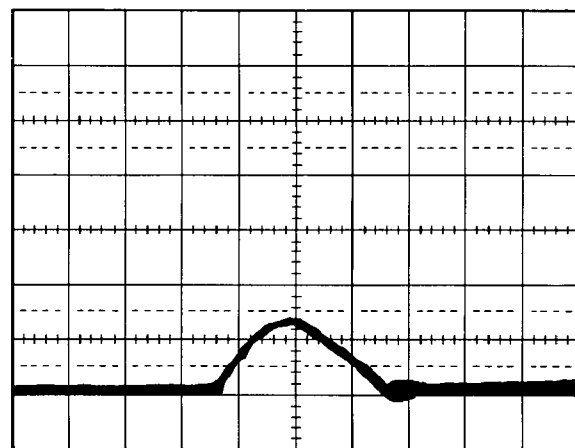

Figure 5-27. Amplitude Marker Waveform
11. Press Spectrum Analyzer **CENTER FREQUENCY** key then use rotary knob to set Center Frequency so the peak of the blip is at the center line of the oscilloscope screen. (See Figure 5-27.)